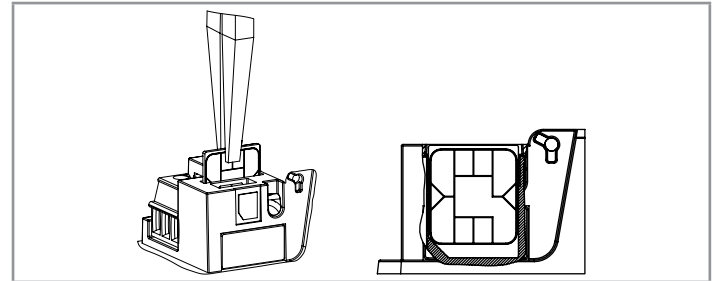

Fig. 25: Insertion direction for the configuration memory
- Pay attention to the direction of insertion: see Fig. 25.